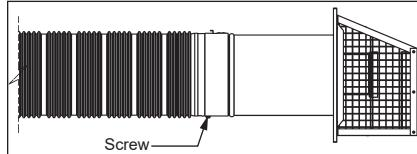

Figure 8 - Completed Vent Connection
**NOTICE:** To reduce the friction between the corrugated pipe and the O-rings, it is recommended to dampen the O-rings with water. The completed connection is shown in Figure 8.